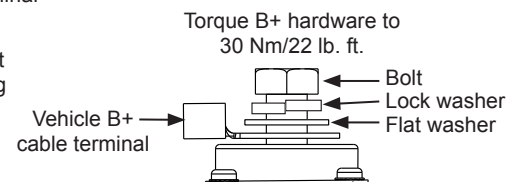

Figure 2: B+ Terminal Hardware Stacking Order
6. Connect vehicle B+ cable to alternator B+ terminal. Install hardware on B+ terminal in stacking order shown in Figure 2. Torque to 30 Nm/22 lb. ft.